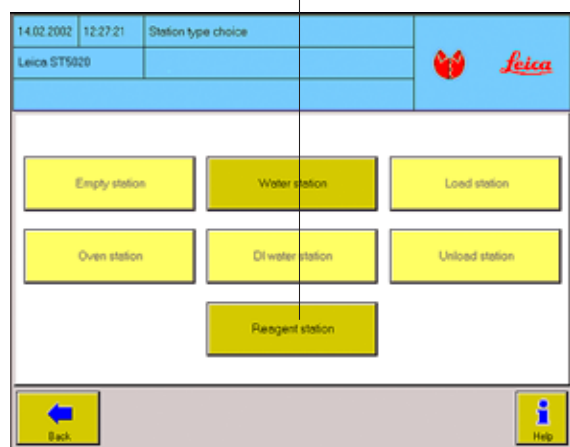

Fig. 53
- If a station is empty, only the **CHANGE STATION TYPE** button (8) is displayed.
- If **CHANGE STATION TYPE** is pressed, the menu **STATION TYPE CHOICE** (Fig. 53) opens up where you can see which station types can be allocated to a particular station. Buttons corresponding to station types which cannot be selected are disabled.
- Depending on the station type chosen, additional station information is displayed. Information displayed for all station types (9):
- Additional information can be found in the row below and on the right side of the screen (10).